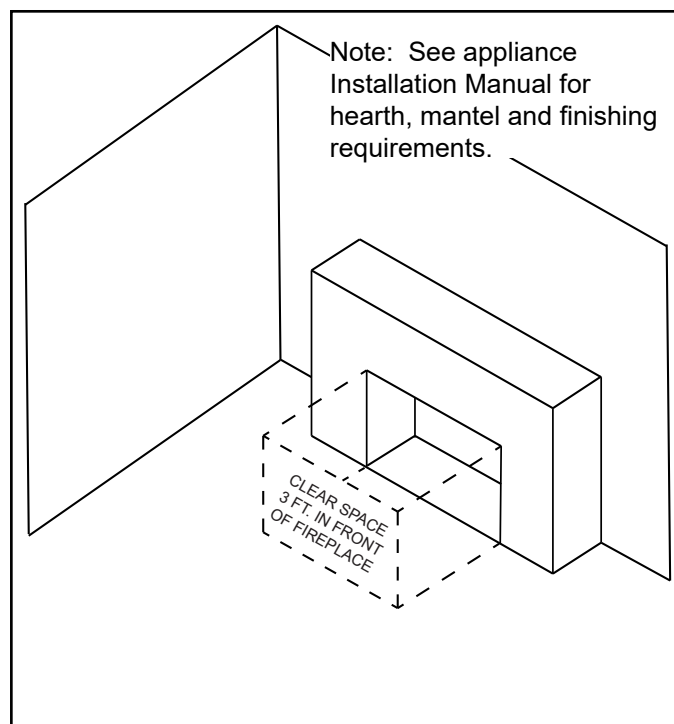

Figure 8.1 Clear Space
**WARNING! DO NOT place combustible objects in front of the fireplace.** High temperatures may start a fire. See Figure 8.1.